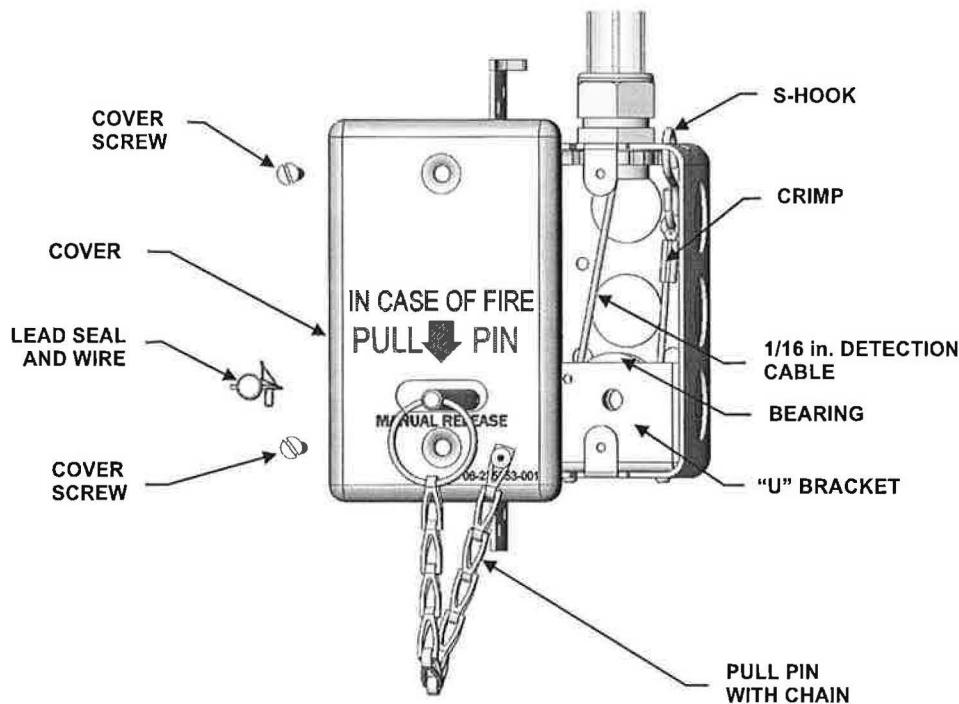
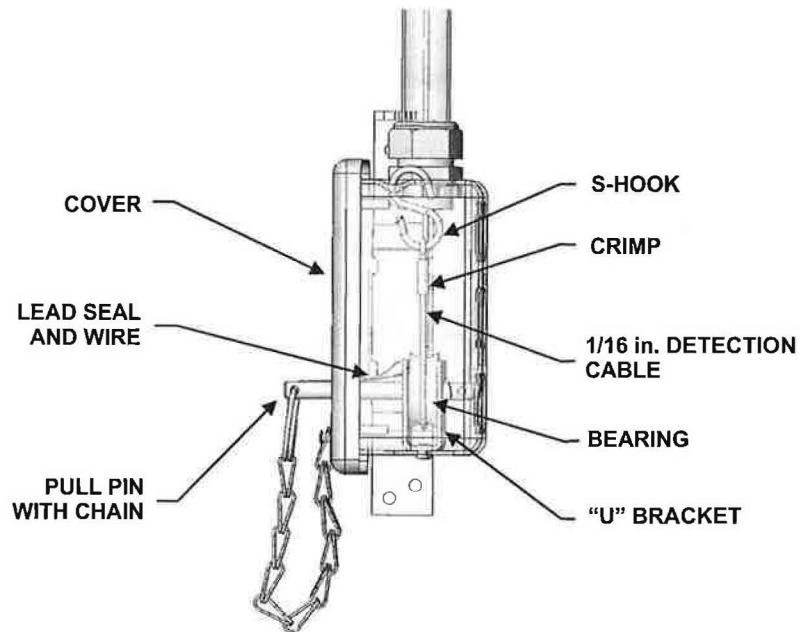

Figure 4-67. Recess Mounted End-of-Line Remote Manual Control, P/N 9197461
Figure 4-68. Recess Mounted End-of-Line Remote Manual Control (Side View), P/N 9197461
14. Attach the S-hook up and through the 3/32-inch (2.5 mm) diameter hole on the upper right side of the control box as shown in Figure 4-67 and Figure 4-68.